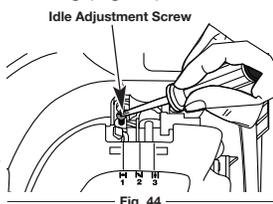

Fig. 44
2. Release the throttle trigger and let the engine idle. If the engine stops, insert a small Phillips screwdriver in between the air filter cover and the engine cover (Fig. 44). Turn the idle speed screw in, clockwise, 1/8 of a turn at a time (as needed) until the engine idles smoothly.